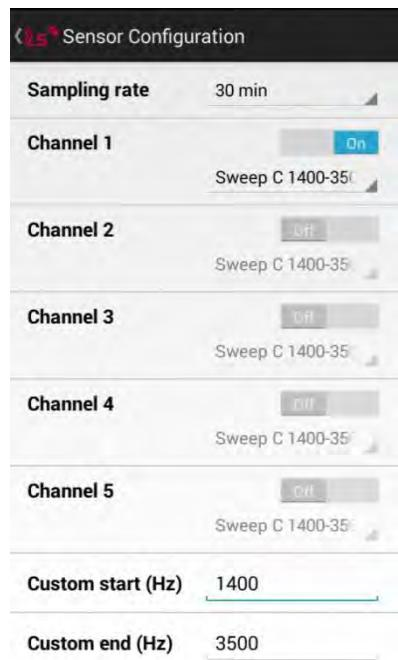

Figure 7: Sensor configuration options of LS-G6-VW-5ch.
- VW datalogger (Figure 7): activation of channels, sampling rate interval and VW sweep frequency for each sensor. For more information on the configuration, see Section 3.1.